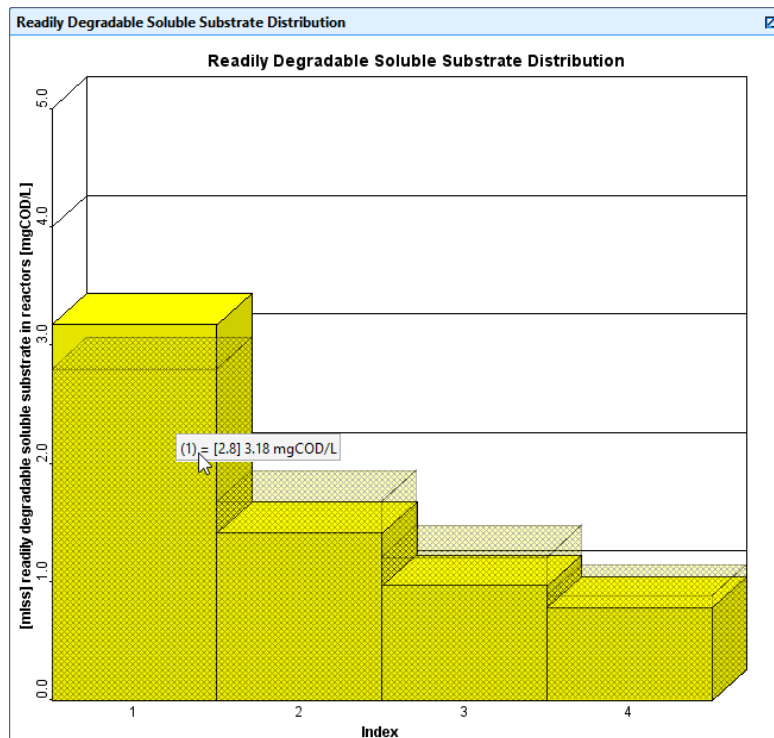

Figure 6-27 – Bar Chart showing Measured Data
37. Run a 0-day simulation with **Steady-State** clicked **ON**. The data from the Excel file should show up with the simulated result as a bar chart, as shown in **Figure 6-27**.